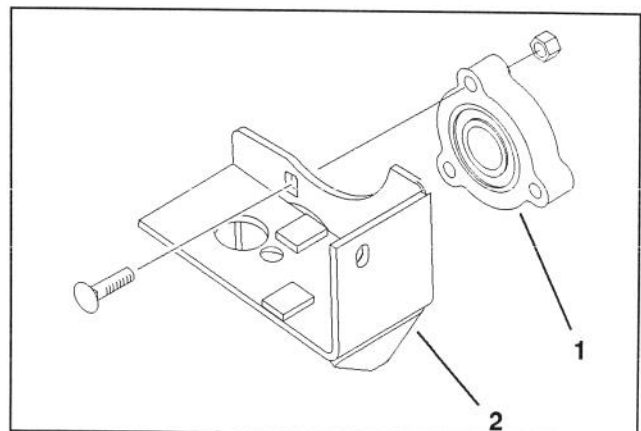

Figure 14
- Loosely mount bearing assembly to bearing bracket with (3) 5/16 - 18 x 1-1/4" lg. carriage bolts and 5/16 - 18 lock nuts, as shown in figure 14.